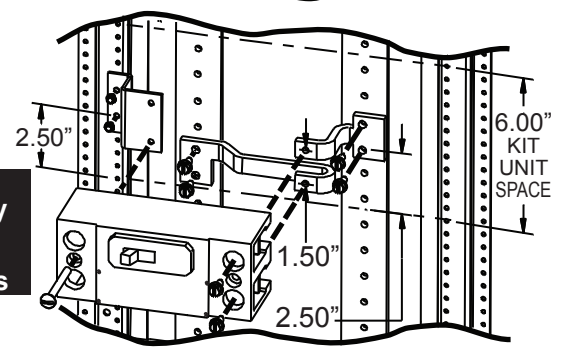

Figure 2
A. A 3-pole QR breaker will mount exactly the same as the 3-pole QJ breaker it is replacing; however, 2-pole requires a change in connector configuration. For horizontal 2-poles, the long strap will need to be moved to match the mounting shown in Fig. 2. **NOTE: A vertical 2-pole main is NOT supported in the top fed location (see Table 1, below).**